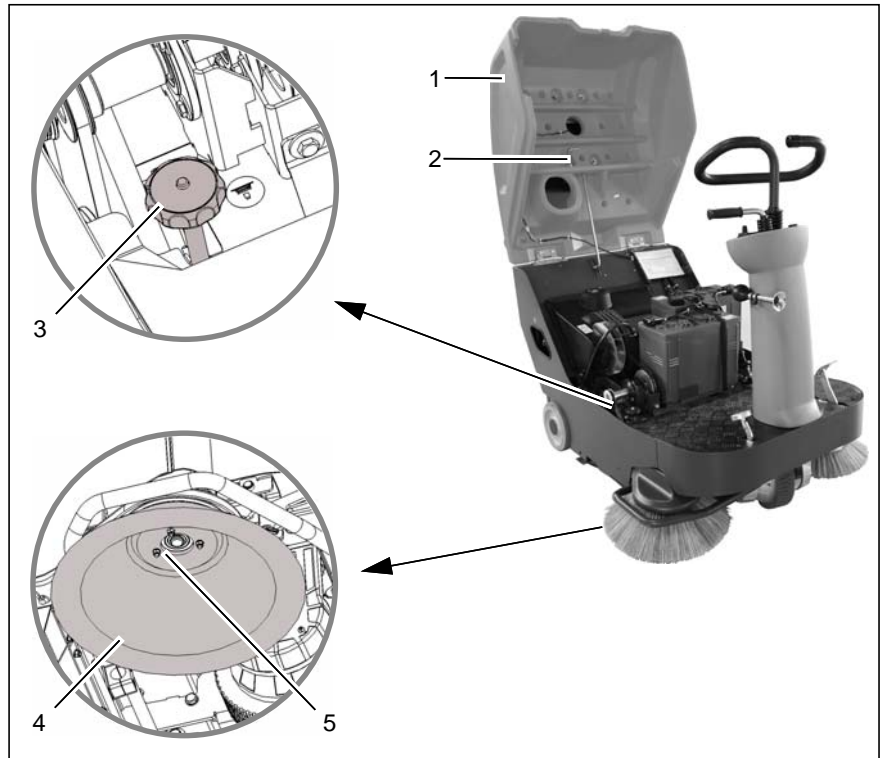

Fig. 19
Check the side broom (Fig. 19/4) every week and change in the case of wear.
2. Open the seat console (Fig. 19/1) and secure with the safety support (Fig. 19/2).
3. Remove the hex nuts on the retaining screws (Fig. 19/5).
4. Remove the old side broom (Fig. 19/4) from the side broom holder and install the new one.
The sweeping pattern must be readjusted in the case of bristle wear and after changing the side broom (Fig. 19/4).
3. Turn the adjusting bolt (Fig. 19/3) until the right-hand side broom
(Fig. 19/4) touches the ground.